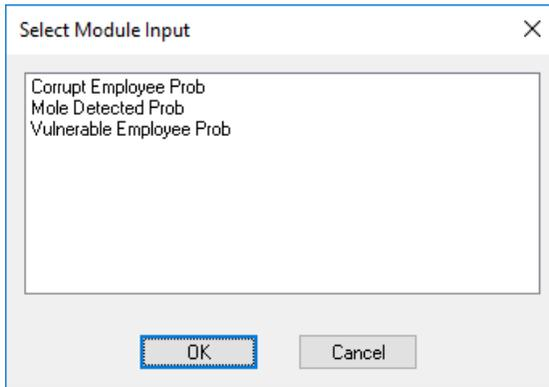

Figure 9-5. Select Module Input Dialog
- ⇒ Draw an influence arc from Corrupt Employee to Attack Successful. DPL displays the Select Module Input dialog (Figure 9-5).
- ⇒ Draw influence arcs from Corrupt Employee, Vulnerable Employee and Mole Detected to Attack Successful, in each case selecting the appropriate module input as in the previous section (Figure 9-5).